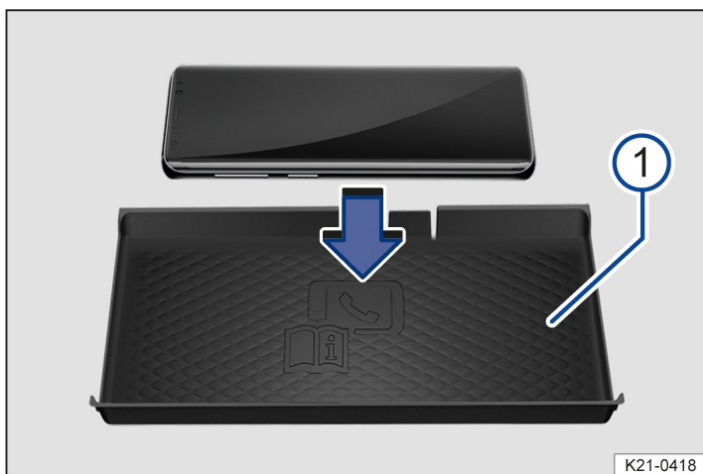

Fig. 1 In the centre console: stowage area for the wireless charging function (illustration).
The shelf with lining mat → Fig. 1 ① for the wireless charging function is located in the area of the centre console and is designed for only one Qi-certified mobile telephone.
In some vehicles, the lining mat → Fig. 1 ① has a telephone symbol which marks the centre position.